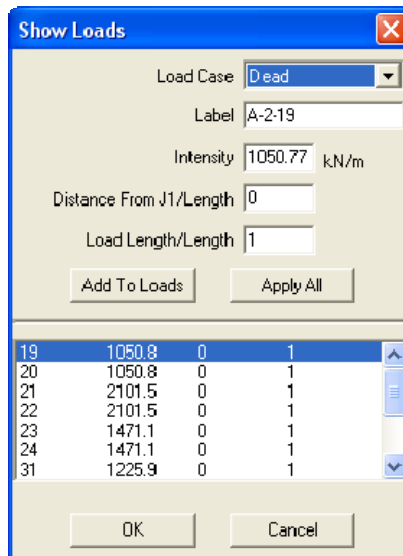

Figure 7-5 Show Loads dialog box
- Choose the SHOW LOADS button. The dialog box of Figure 7-5 appears.